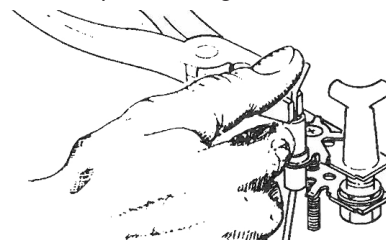

Figure 8
7. Holding pliers firmly on the ignitor/sensor rod at the distance measured, use finger pressure on the ignitor/sensor rod tip to slowly bend it towards pilot hood, Figure 8. If tip is too long, cut off excess.